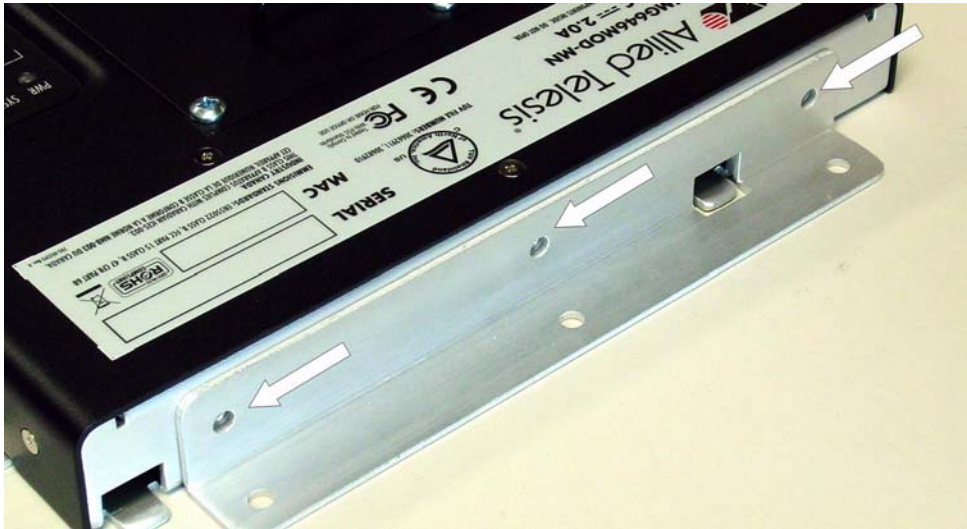

Figure 15. Attaching the Wall Mount Bracket to the iMG646MOD (Mounting Holes)
1. Take the wall mounting bracket and attach it to the top of the gateway using the three remaining mounting screws, as shown in Figure 15